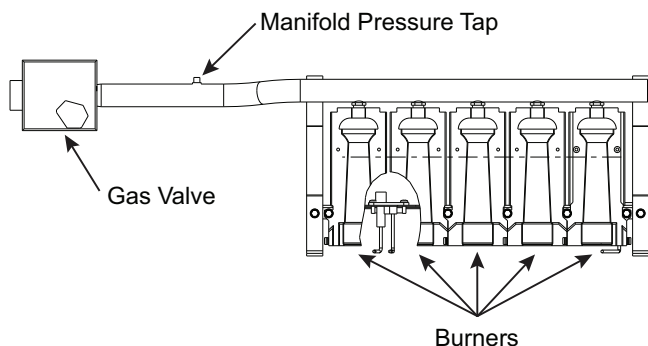

Fig. 56 — Burner Tray Details
10. Slide the burner tray out of the unit (see Fig. 56).
2. Remove manifold pressure tap plug from manifold and connect pressure gauge or manometer. (See Fig. 56.)
11. Turn off unit, remove pressure manometer and replace the manifold pressure tap plug. (See Fig. 56.)